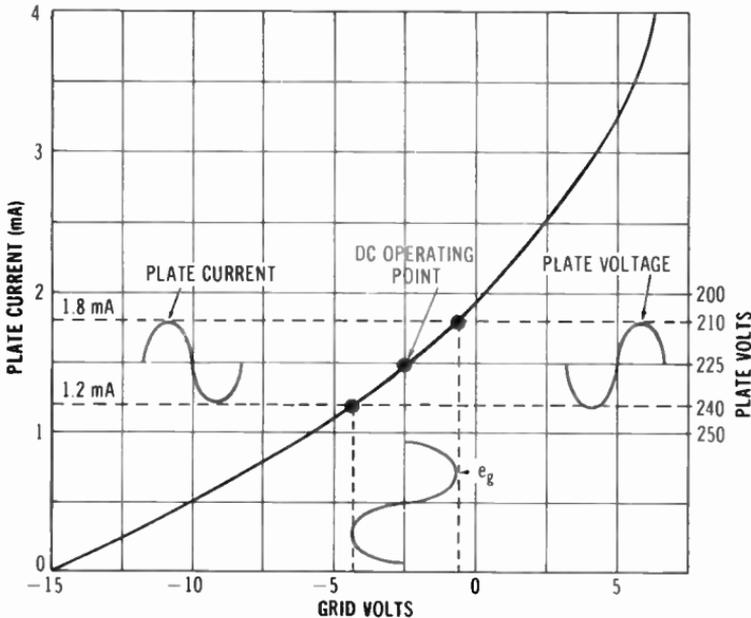

Fig. 5-4. Graph of amplifier operation.
The grid bias (E_c) is adjusted in such a way that it allows a small amount of plate current to flow when no input signal is present. Now an ac input-signal voltage (e_g) is introduced. Suppose the dc grid bias voltage is -2.5 volts and an ac signal that swings 2 volts in each direction (4 volts peak-to-peak) is superimposed on it. The graph in Fig. 5-4 shows how the plate current and voltage change with the grid voltage for a
Q5-3. In Fig. 5-4, the ac input signal is applied to the _____ of the tube.
- A5-3.** In Fig. 5-4, the ac input signal is applied to the **grid** of the tube.
The graph in Fig. 5-4 shows the plate current and voltage for any given grid voltage for one particular amplifier circuit. A point on the curve indicates the dc bias voltage applied to the grid. This is called the **dc operating point**, or the **quiescent point**. With every amplifier circuit, this point must be chosen correctly in order to have proper operation. For an accurate reproduction of the input signal, the grid bias is usually chosen so that: